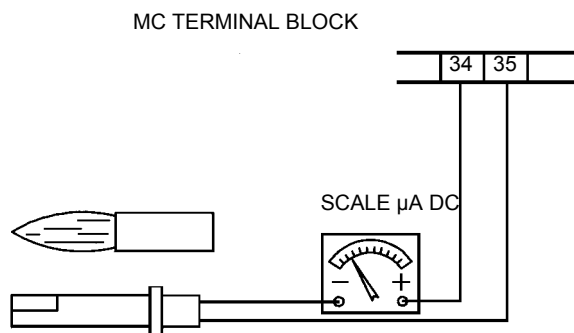

Fig. 22
- Dismantle, clean and check the combustion head (see Fig. 22).
- 3 unscrew the revolving connectors (E in Fig. 22) on the fuel pipes (use 2 spanners to avoid loosening the connections attached to the distributor block);
- 5 remove the whole assembly as shown in Fig. 22.